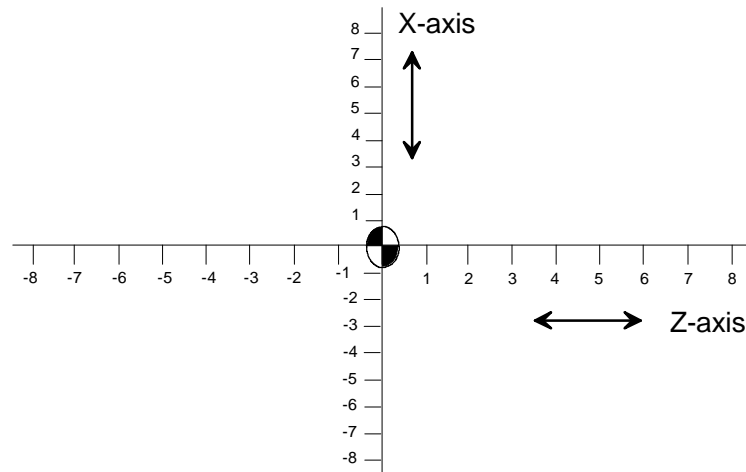
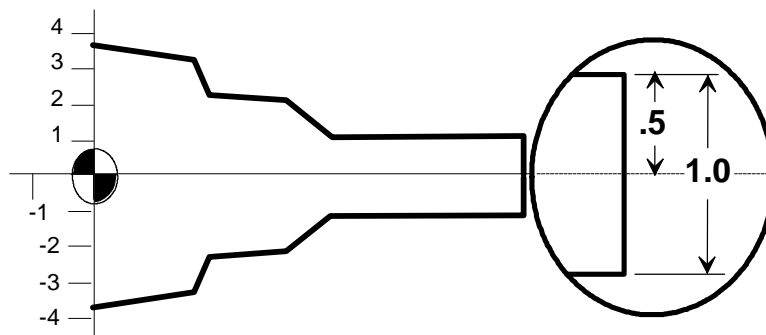

FIGURE 1-1
FIGURE 1-2
Figure 1-1 shows how X and Z-axis movements are actually referenced to a number line that has both positive and negative numbers.
Each graduation on the number lines in Figure 1-1 represents one (1) inch. The X-axis markings are half the size of those for the Z-axis. This is because the Okuma Lathe "thinks" **diametric**. Figure 1-2 shows how the Okuma lathe realizes that a 1 inch diameter is really .5 on both sides of the number line.